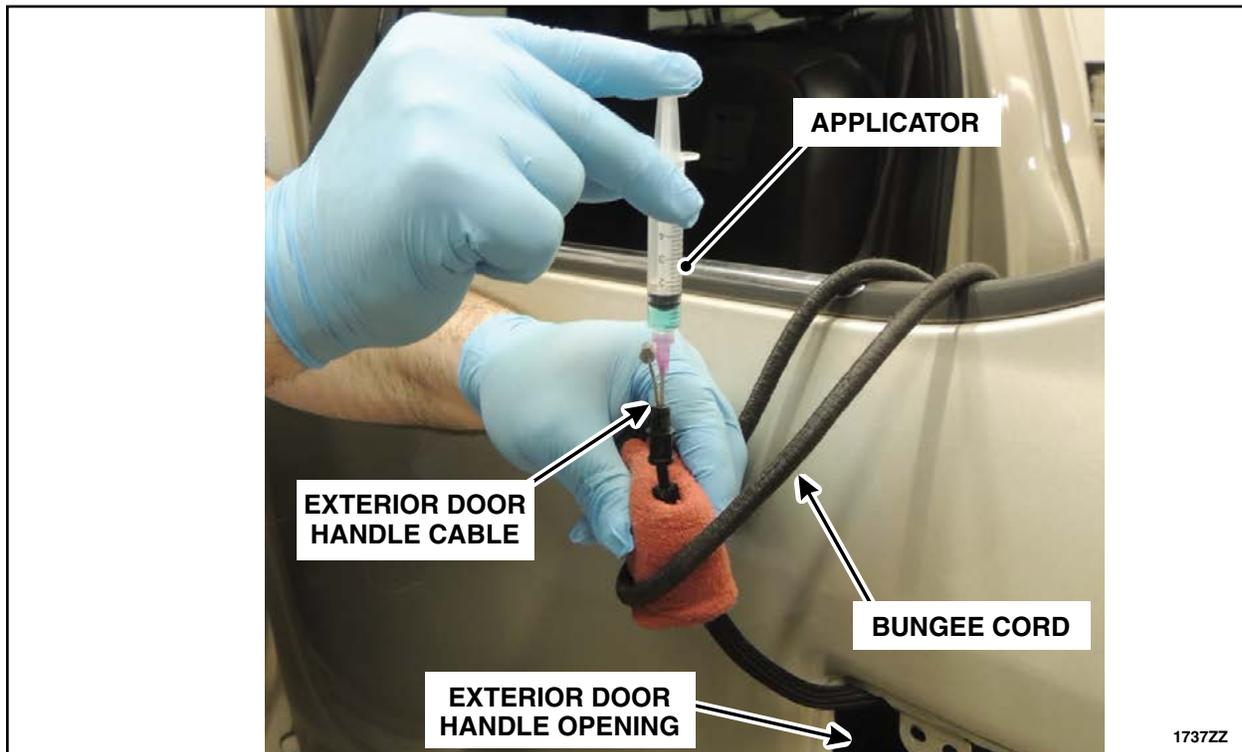

FIGURE 9
14. Remove the grease from the exterior door handle cable end and towel dry the cable to absorb any residual moisture. Using a bungee cord or other similar device secure the exterior door handle cable to the door in an upward position as shown in Figure 9, to allow the undiluted Motorcraft® Premium Windshield Wash Concentrate (ZC-32-B2) or a 99 percent methyl hydrate (methanol) product time to run down into the cable, until the exterior door handle cable is reinstalled later in this procedure.